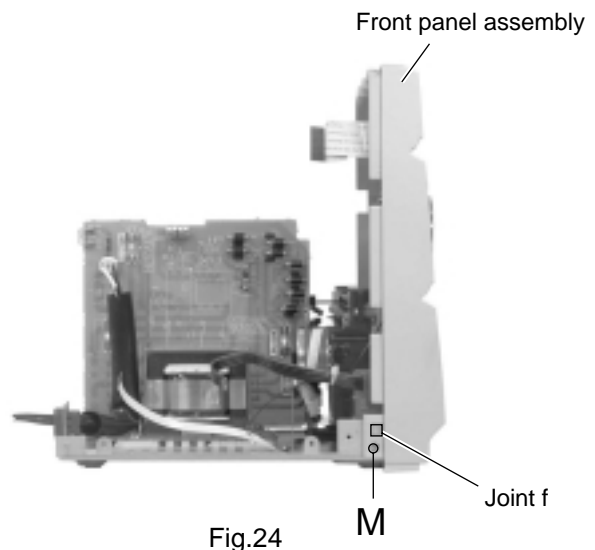

Fig.24
**■Removing the front panel assembly (See Fig.24 and 25)**